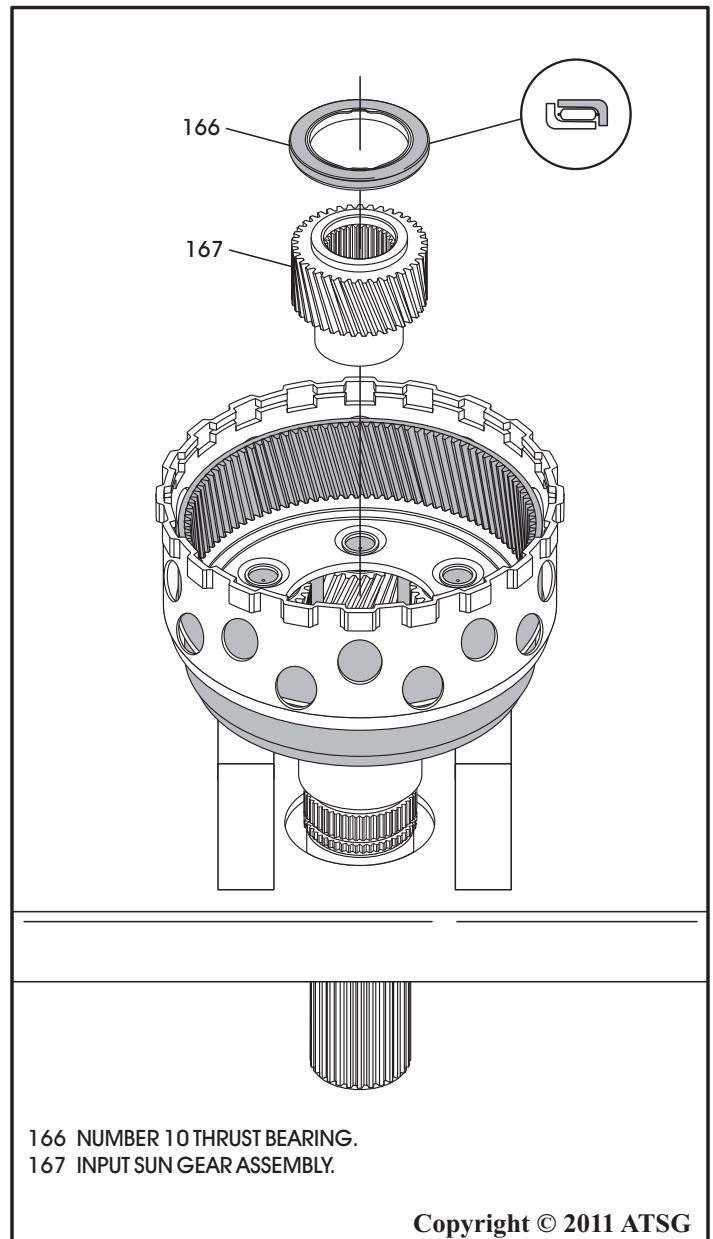

Figure 89
9. Place this assembly onto blocks and over a hole in your work bench, as shown in Figure 89, so the output shaft protrudes through the hole.
10. Install the input sun gear in the direction that is shown in Figure 89, and engage it into the input planetary pinion gears.
11. Install the number 10 thrust bearing onto input sun gear with the black side facing up, as shown in Figure 89.